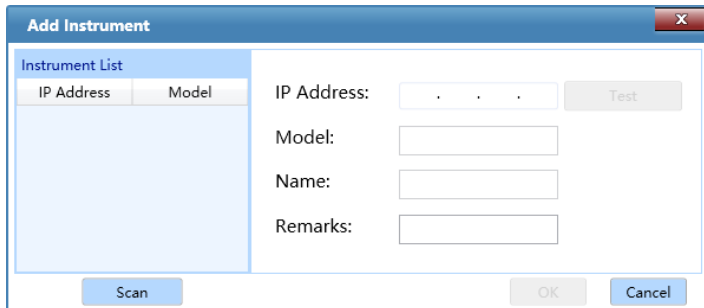

Figure E-3.2a Instrument Management Interface - Add Instrument Window
- a. Click **< Add >** and the Add Instrument window will pop up, as shown in figure E-3.2a.